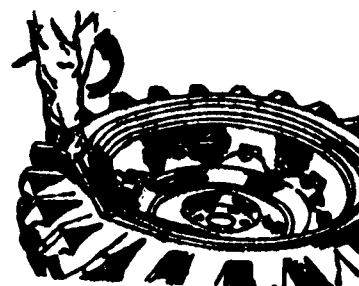

Fig. 2
- d) Press the bead downward (Fig. 2).